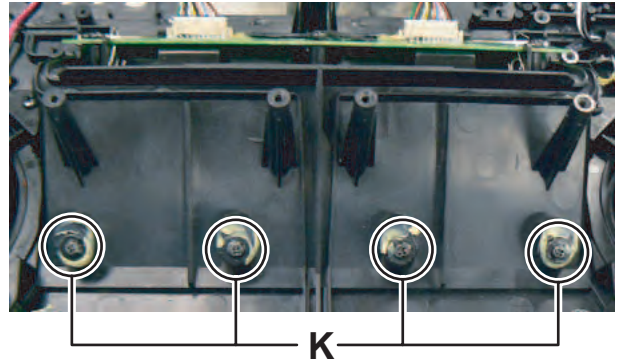

Fig.11
- (3) Remove the four screws **K** attaching the Holder. (See Fig.11)